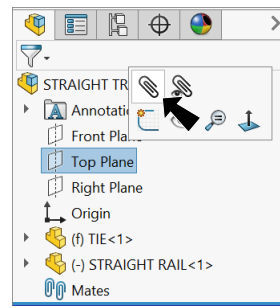

Fig. 5
Step 2. Click **Top Plane**  in the Feature Manager and **Mate**  on the context toolbar, **Fig. 5**.